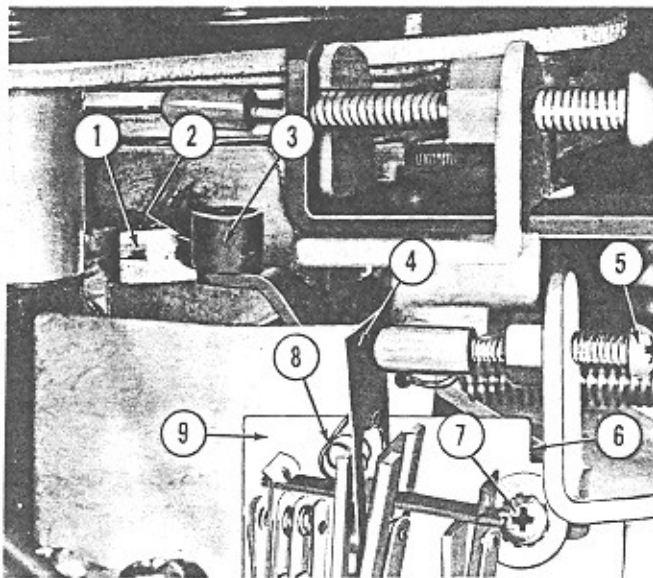

Fig. 33. STOP PLATE SETTING, MUTE AND PLAY SWITCH
b. Advance the cycle of operation to a point where the roller of the actuating arm (Item 3) is at the base of the cam lobe (Item 1, Fig. 33) but still resting on the surface of the main cam. Adjust the stop plate (Item 9) to bear against the actuating arm at Item 6, to provide 1/64" clearance between the roller and the main cam as indicated at Item 2.
c. Set the actuating screw (Item 5, Fig. 33) of the mute and play switch actuating arm to provide actuation of the mute and play switch under the spring loading of the actuating arm. Over-travel action after switch operation should be 1/32" to 1/16" as measured at the switch tab (Item 4). Advance the cycle to position the roller on the highest point of the mute and play switch cam and check for complete retraction of the switch and over-center action of the toggle spring (Item 8). In some cases it may be necessary to justify the adjustment of the actuating screw (Item 5) to obtain satisfactory over-travel in both positions of the mute and play switch.